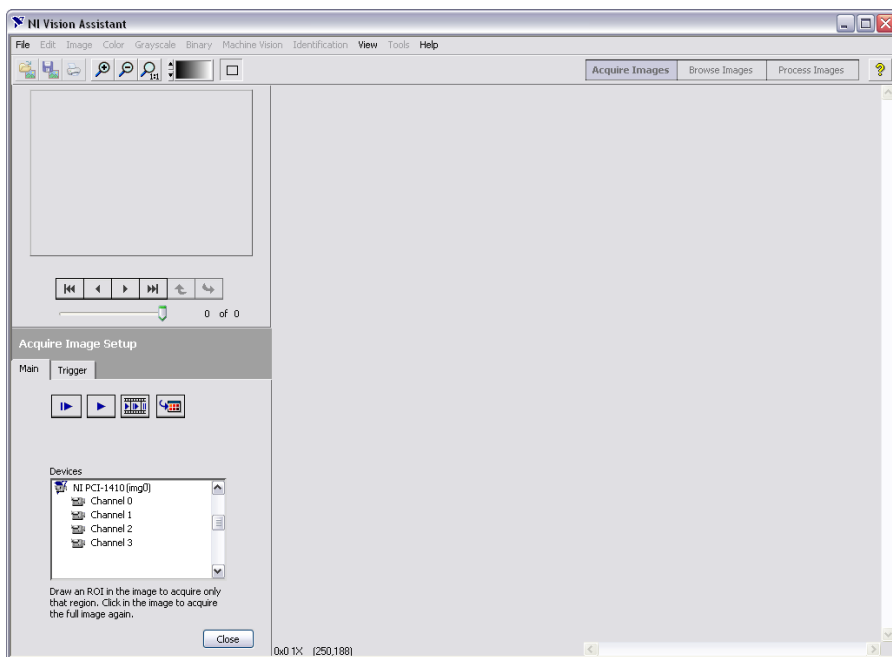

Figure 2-6. Acquire Image Setup Window
3. Click **Acquire Image**. The Setup window displays the NI Vision devices and channels installed on the computer. For example, Figure 2-6 shows that the NI PCI-1410 is installed.